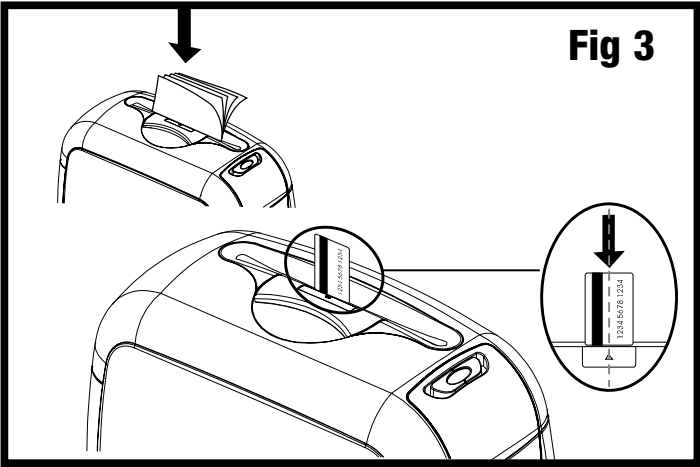

Fig 3
- Place the paper or credit card into the centre of the entry slot - shredding will start automatically (fig 3).